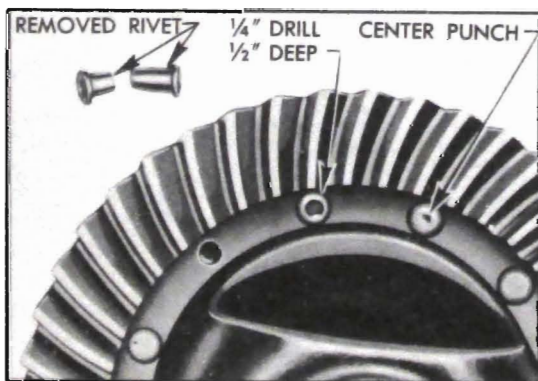

Figure 5-13—Removal of Ring Gear Rivets
1. Center punch all rivet heads on ring gear side, placing marks in center of heads. Drill rivets approximately $\frac{1}{2}$ " deep with $\frac{1}{4}$ " drill. See figure 5-13.